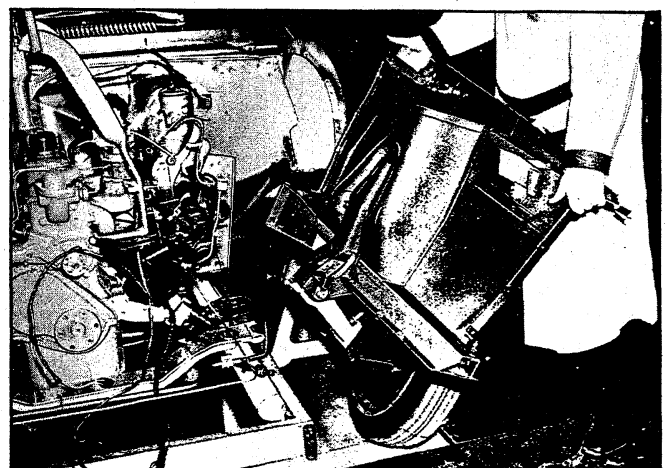

Fig. 27 - Removing Skirt Assembly
12. Remove skirt assembly with remaining suspension parts attached as shown in Figure 27.